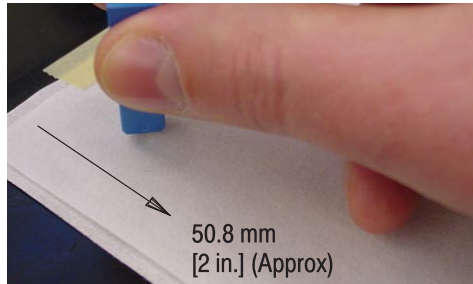

Figure 3
6. Holding the connector perpendicular to the wiper, place the end face on the moistened portion of wiper, and wipe the end face across the wiper by approximately 50.8 mm [2 in.]. Refer to Figure 3.